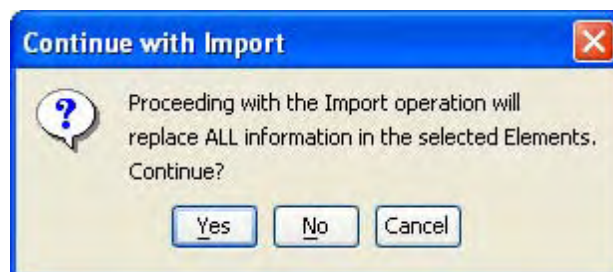

Figure 11.133 Continue with Import
8. Select **Finish** to carry out the import, or select **Back** to make changes in previous steps. If you are sure about the import, confirm by selecting **Yes** in the **Continue with Import** dialog box (Figure 11.133). Choosing **No** or **Cancel** will return you to the Wizard's **Step 6 of 6**.